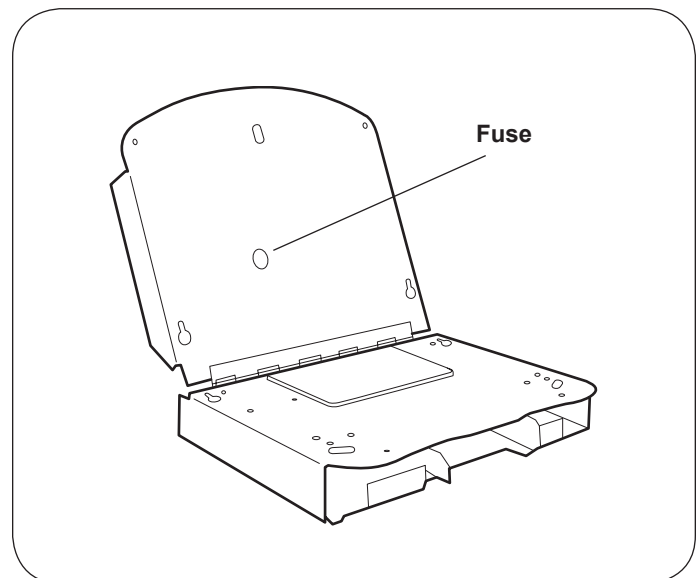

Figure 23. Fuse Location
2. Locate fuse cover in round hole in seat back. (Figure 23)